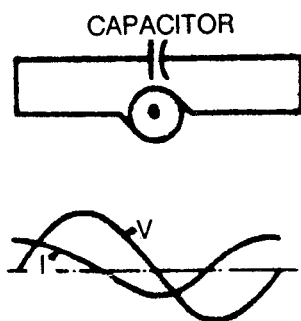

FIGURE 14-22. Leading Power Factor
- When the current leads the terminal voltage, as is the case with capacitors or synchronous motors, then the inductive reactance in the armature aids the generated voltage. Less voltage must be generated than when resistance was the only consideration (Figure 14-22).